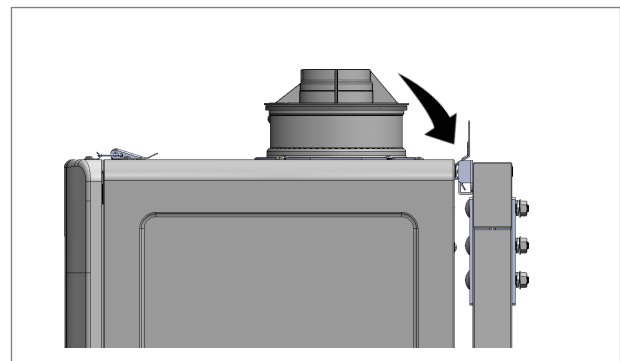

Fig. 11
9. Hang the boiler onto the hanging bracket (Fig 11). Reference the Boiler Installation and Operation Manual for detailed instructions.